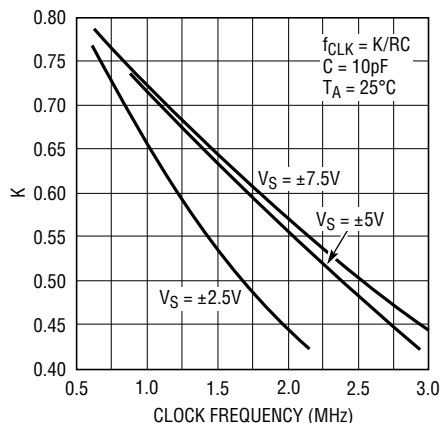

Figure 6.  $f_{CLK}$  vs K
For a very limited temperature range, the internal oscillator of the LTC1063 can be used to generate clock frequencies above 500kHz (Figures 6 and 7). The data of Figure 6 is derived from several devices. For a given external (RC) value, the observed device-to-device clock frequency variation was  $\pm 1\%$  ( $V_S = \pm 5\text{V}$ ), and  $\pm 1.25\%$  for  $V_S = \pm 2.5\text{V}$ .
from Figure 6,  $K = 0.575$ ,